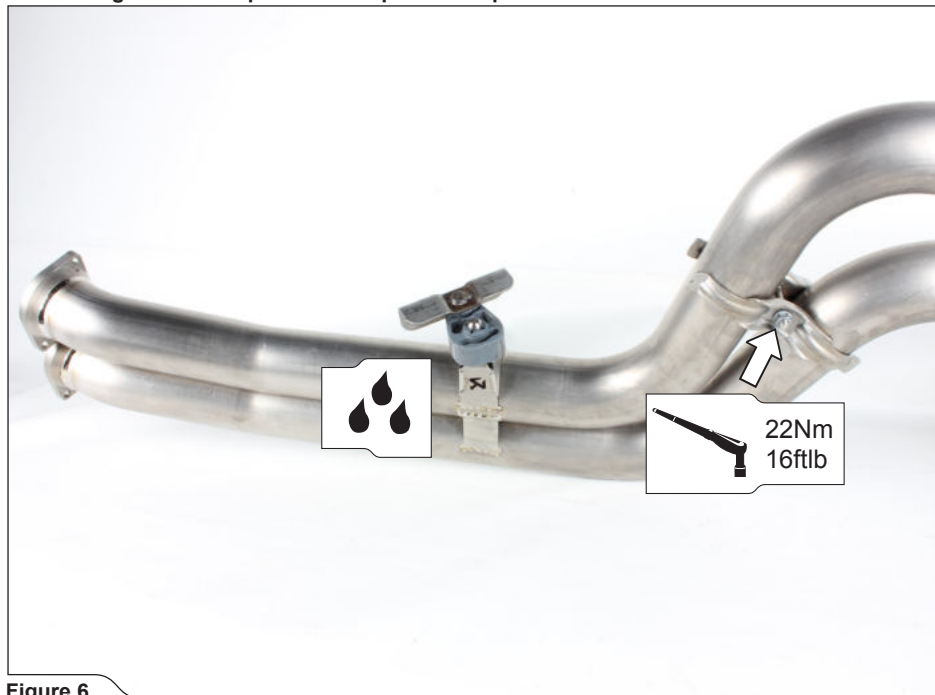

Figure 6
1. Install the stock link pipe rubber bracket and the stock pipe connection clamp onto the Akrapovič link pipes, as shown (Figure 6).